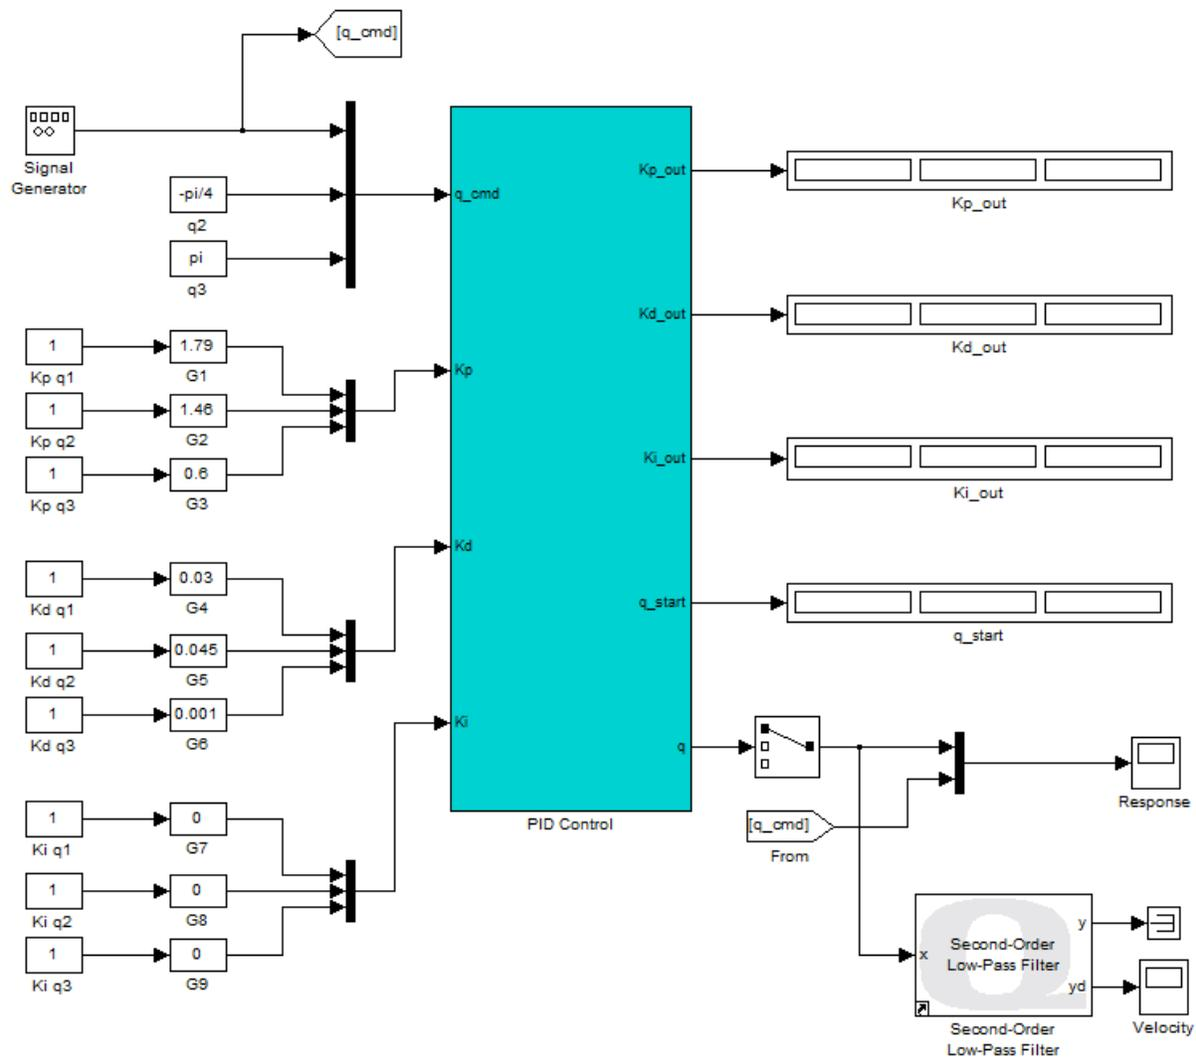

Figure 5.7: Joint 1 velocity measurement model
3. Your model should resemble Figure 5.7